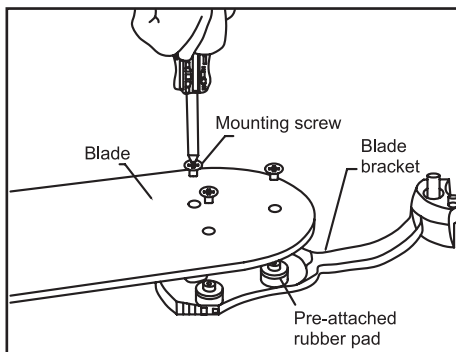

Figure 13
1. Attach the blade to the blade bracket using the screws provided as shown in figure 13. Please note that the rubber washers are pre-attached to the blade bracket. Insert a screw into the bracket. Repeat for the two remaining screws.